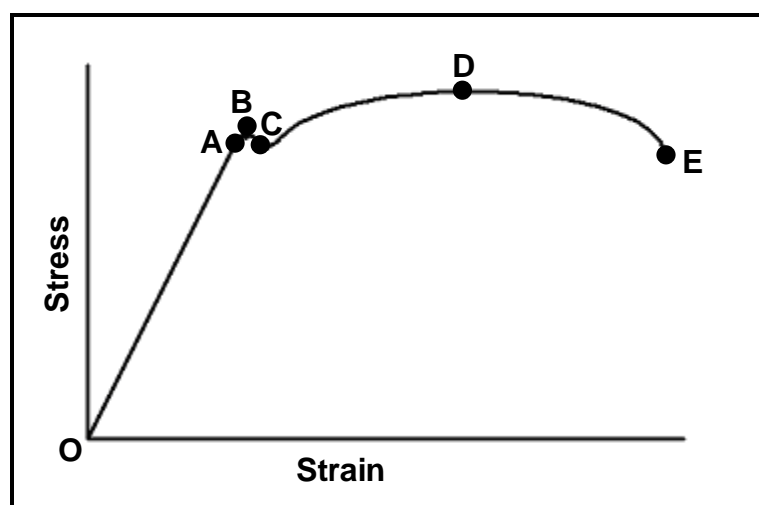

FIGURE 1.1
1.13 What is represented by point **D** on the stress-strain graph shown in FIGURE 1.1?